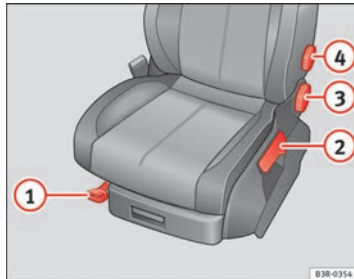

Fig. 103 Adjuster controls on driver seat
- Lift the lever ① ⇒ Fig. 103 and move the seat to the desired position.
- Then release the lever ① and move the seat further until the catch engages.
- Pull the lever ② ⇒ Fig. 103 up repeatedly until the seat is in the desired position.
- Turn the adjuster wheel ③ ⇒ Fig. 103 to set the angle of the backrest as required.
- Do not exert any pressure on the backrest and turn adjuster wheel ④ ⇒ Fig. 103 to adjust lumbar support.